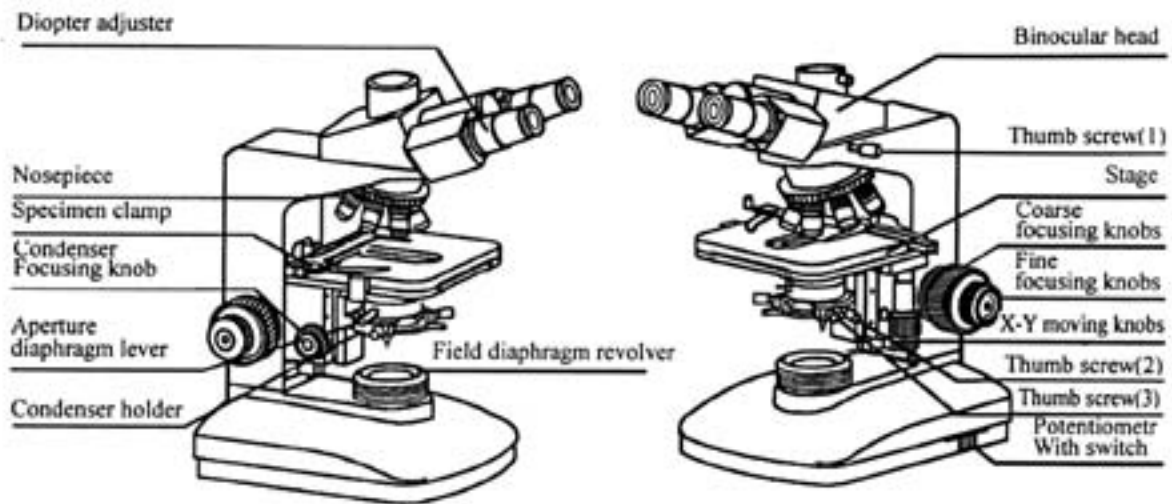

Fig 1
3. Installation(Fig.1,2)
4.1 Adjustment of the microscope(Fig. 1)